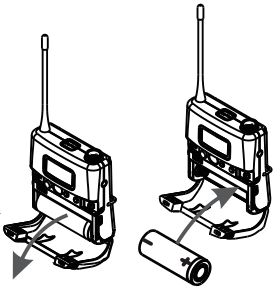

Fig. 29
2. Insert one 18500 type lithium battery according to correct polarity. Fig. 29